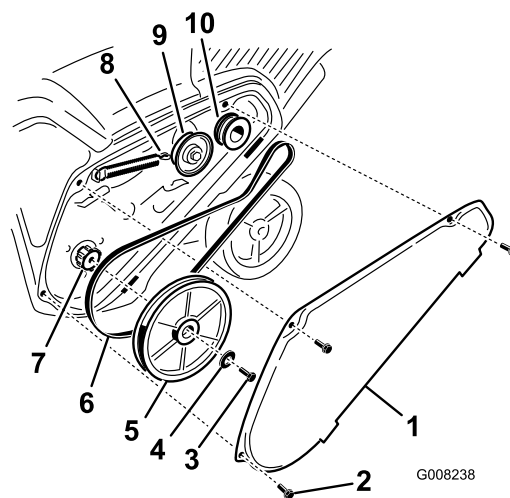

Figure 36
1. Remove the drive belt cover by removing the 3 bolts as shown in Figure 36.
2. Unhook the brake spring from the idler arm to release the belt tension (Figure 36).
3. Remove the screw and curved washer that holds the rotor pulley (Figure 36).
4. Remove the rotor pulley and the drive belt (Figure 36).
Note: Route the new drive belt first around the engine pulley, then the idler pulley, and finally around the loose rotor pulley positioned just above the rotor shaft (Figure 36).
6. Install the rotor pulley onto the rotor shaft (Figure 36).
7. Install the curved washer and the rotor-pulley bolt and tighten them securely (Figure 36).